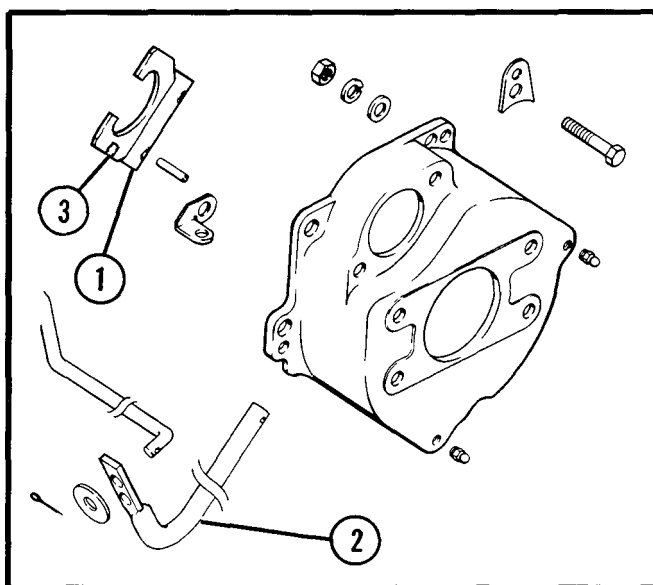

Figure 1.
- The actuator has one side machined and hardened. This side must be installed toward the engine. Note position of notch. See Figure 1.
- When assembling the clutch lever and the actuator the clutch lever arm must be point up. See Figure 1.